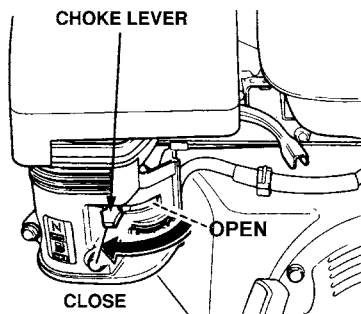

Figure 10. Choke Lever
2. To start a cold engine, move the choke lever (Figure 10) to the CLOSED position.